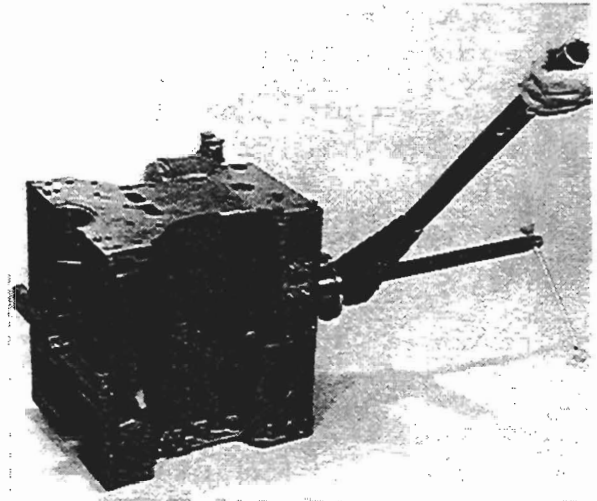

Fig. H2
2. Press in new liners (see fig. H2) by the use of a suitable tool and adaptor. Ensure that the flanges of the liners are correctly located in their recesses at the top of the parent bore.